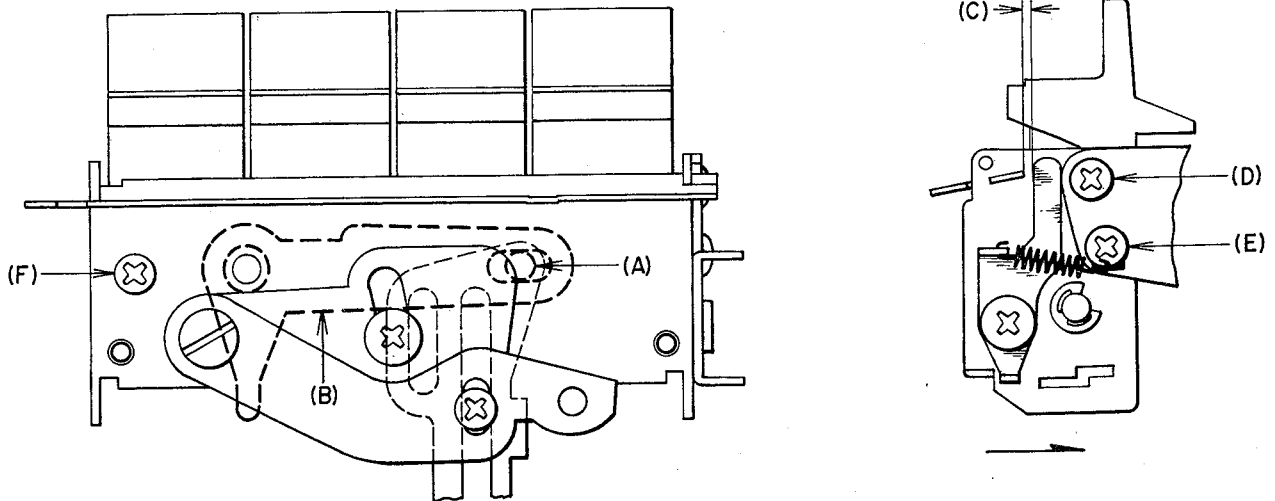

Fig. 16
(11) MOUNTING KEYBOARD BLOCK (See Fig. 16)